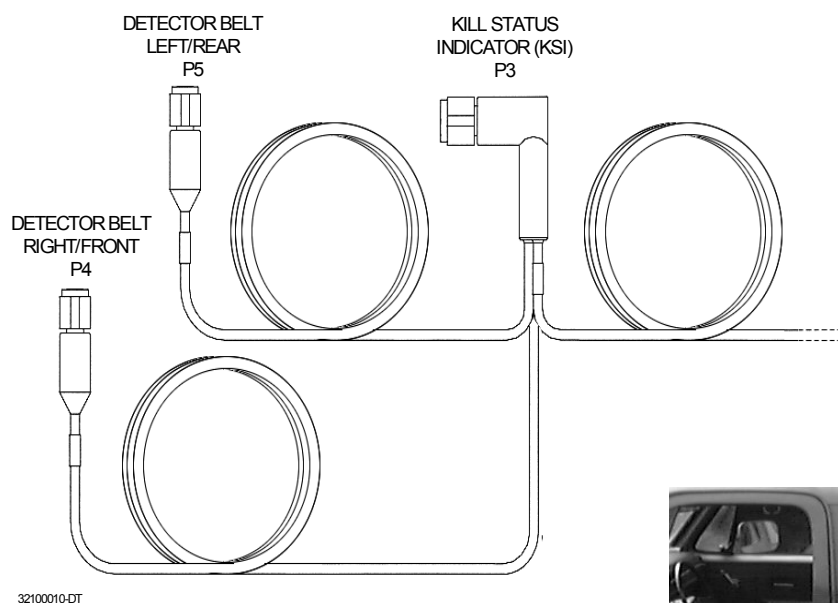

Figure 2-14. System Cable, External Connections.
- d. Lay out the cable on top of the vehicle. Stretch it out and look for the segments labeled KSI, Right/Front, and Left/Rear. Group these segments together. (See Figure 2-14.)